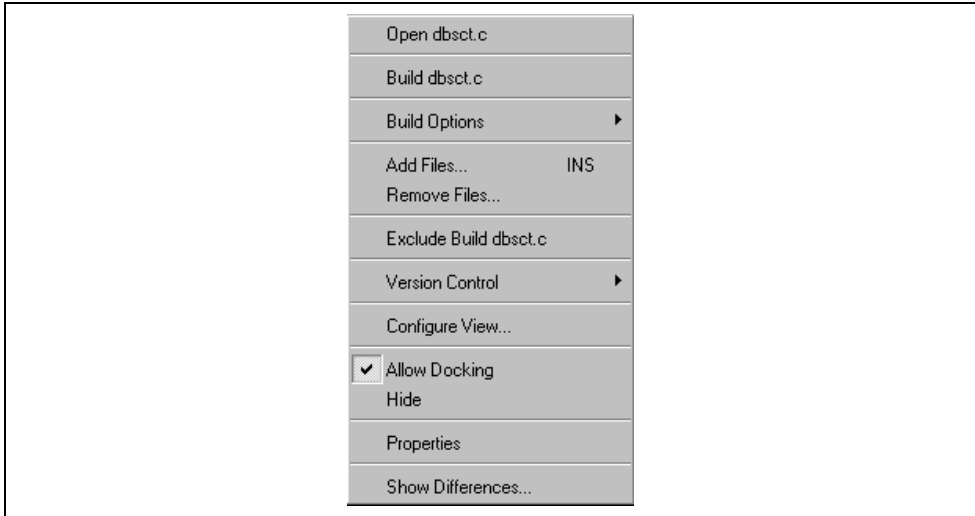
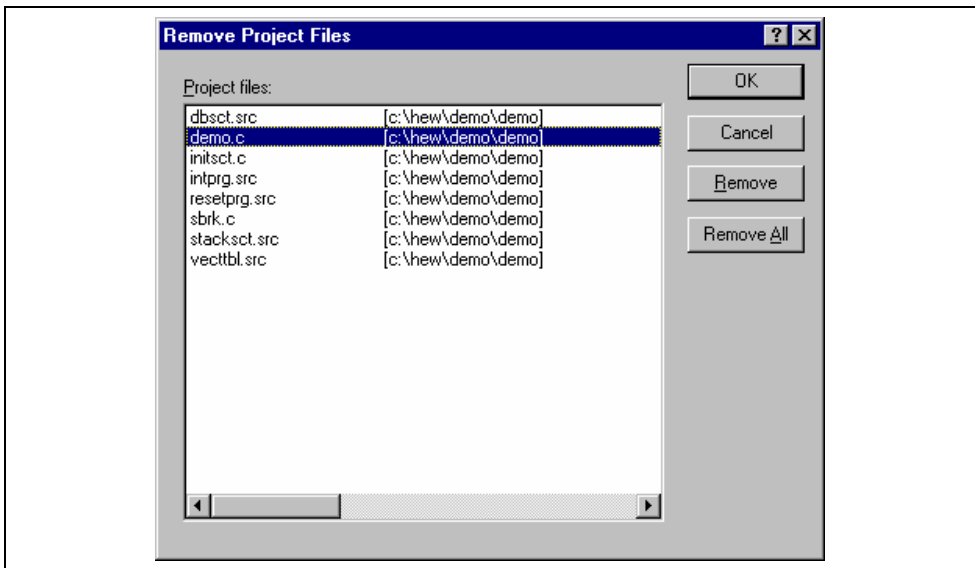

Figure 2.5: Projects Tab Pop-up Menu
Figure 2.6: Remove Project Files Dialog
1. Select [**Project->Remove Files...**], or select [**Remove Files...**] from the “Projects” tab’s pop-up menu in the Workspace window (see figure 2.5). The “Remove Project Files” dialog will be displayed (figure 2.6).
2. Select [**Exclude Build file**], where <file> is the selected file, from the pop-up menu (figure 2.5). Then a red cross will be put on the file's icon, and the file will be excluded from build.